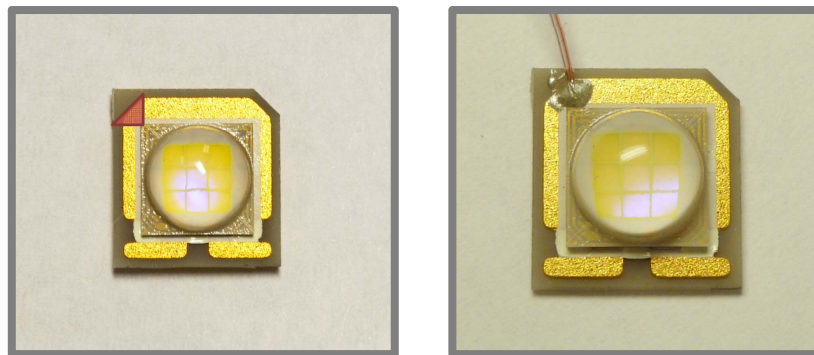

Figure 10. Thermal contact area highlighted in red (left) and example of TC probe attachment (right).
2. Place the thermocouple tip within the area defined in Figure 10. The thermocouple must touch the gold pad within this area in order to avoid any interference with the contact points of the LUXEON S Mechanical Clamp and to ensure accurate measurements.
- iii. Drop a small amount of thermal conductive epoxy just enough to cover the thermocouple tip as shown in Figure 10.